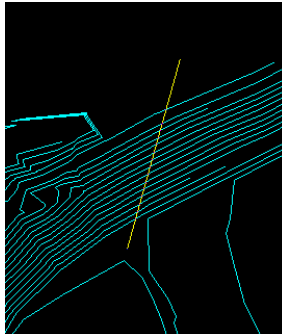

Figure 14-33. Set Elevation by Increment – Results
- Select the starting point for a selection line, then stretch the line until it crosses the objects to set the elevation on (Figure 14-33).